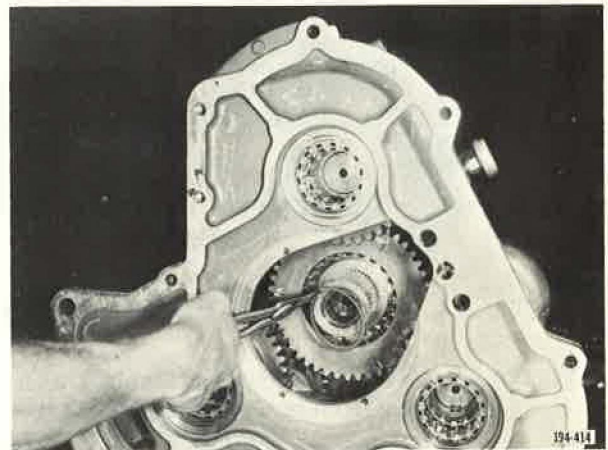

Figure 19. Removing Lo-Range Gear Retaining Snap Ring
3. Through rear case front opening, remove Lo-range gear (lo-lo range for TRXL1071) retaining snap ring. Then remove lo-range gear front thrust washer. See Figures 19 and 20.